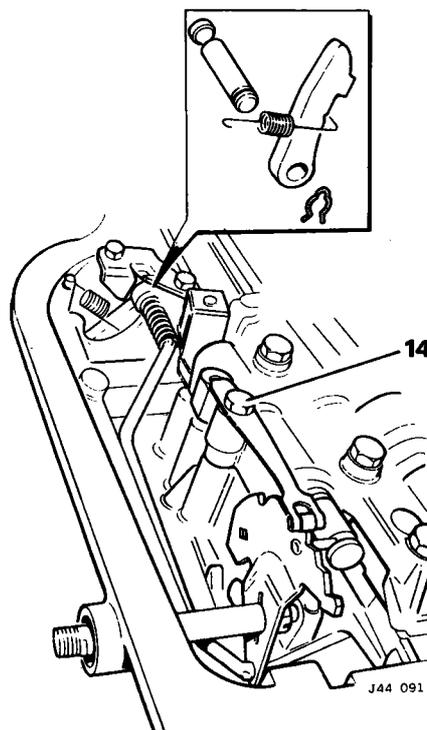

Fig. 10
14. Remove the bolt (Fig. 10) securing the detent spring and roller assembly to the valve block.